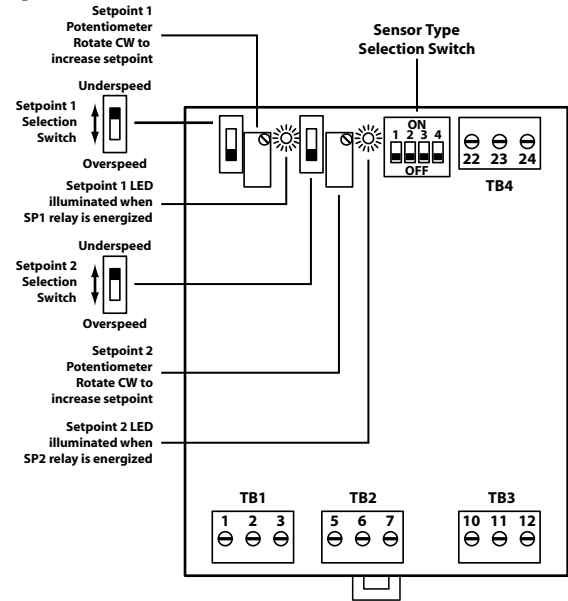

Figure 7: DMS-Series Wiring Diagram
2. Set sensor type selection switch for the sensor used. See Figure 7.
3. Determine whether the relay should de-energize when the shaft drops below the set point speed (under speed operation) or when the shaft speed goes above the set point speed (over speed operation). Use the over/under speed selection switch or switches to place the DMS in the desired mode. See Figure 7.